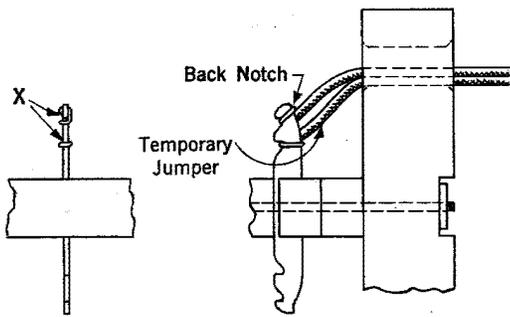

Fig. 21
12.09 The temporary jumper should be connected to the extra notch as shown in Figs. 21 and 22. See 8.13.